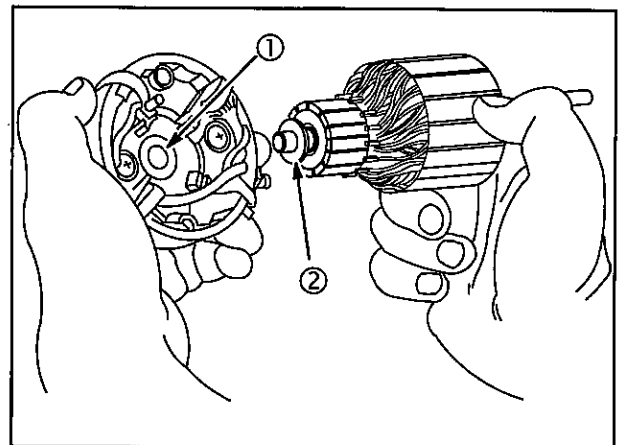

Fig. 26
When all parts have been inspected, lightly lubricate bearings (1) in both end caps with #20 oil, Fig. 26.
1. Install spacer (2) to armature shaft (if equipped).